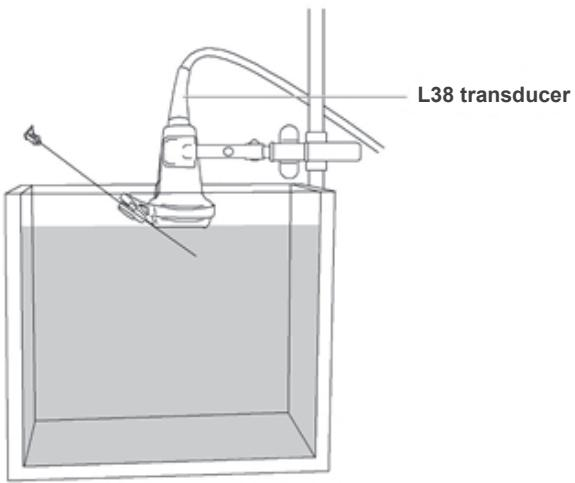

Figure 2 L38 Transducer with Needle in Test Fluid
- ▶ Tank filled with test object fluid (All World Scientific code 3480) or distilled water. See Figure 2, “L38 Transducer with Needle in Test Fluid” on page 9
- 7 Move the needle down into the tank of test fluid or distilled water until its ultrasound image is visible on the system display (see Figure 2, “L38 Transducer with Needle in Test Fluid” on page 9).